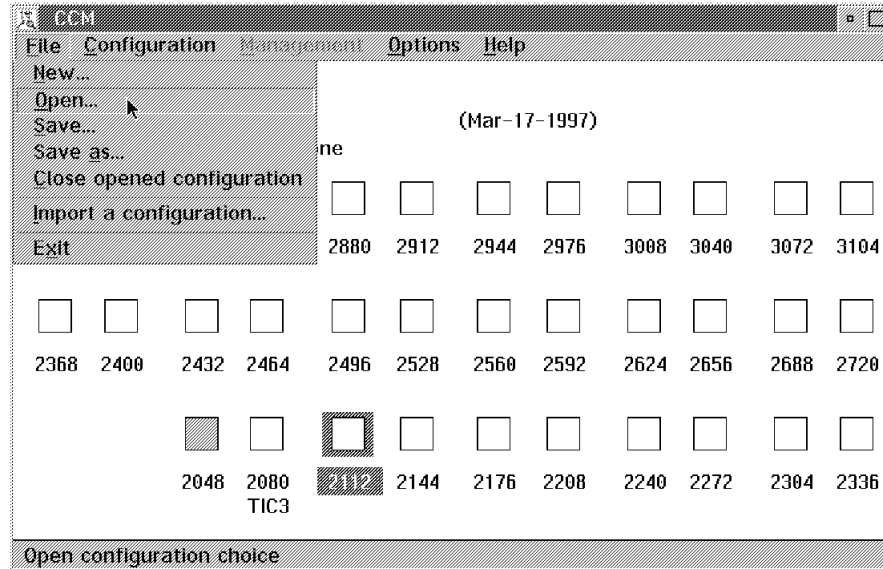

Figure 3-1. Main Window File Menu
- Step 1.** Main window **File** menu → **Open** (see Figure 3-1 on page 3-5)
**Step 2.** In the configuration list, select the configuration to export and press **Export** (see Figure 3-1 on page 3-5).
**Step 2.** In the configuration list, select the configuration you want and press **Activate** (see Figure 3-1 on page 3-5).